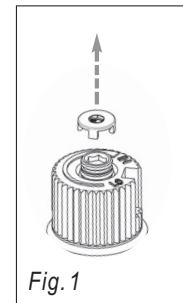

Fig. 1
- 11) Remove the black protection cap by hand from the high-low knob (Fig.1).